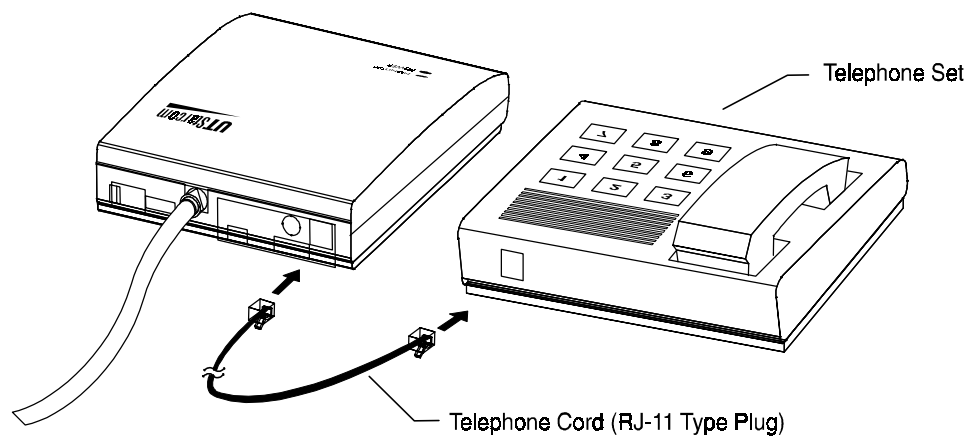

Figure 4-13 : Telephone Cord Connection
3. Connect the telephone set to the RJ-11 jack on the back of the FSU using a standard telephone cord. See Figure 4-13.